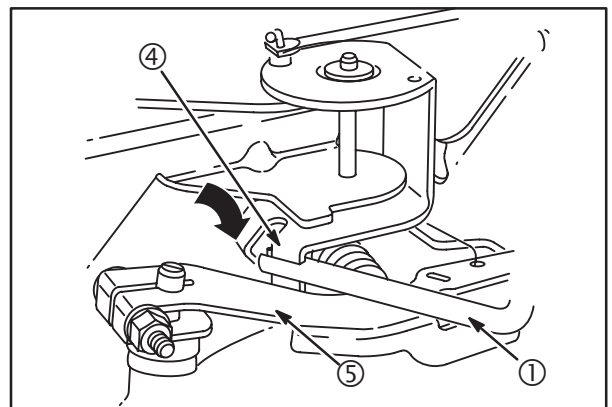

Fig. 36
3. Use Tool #19352 (1) to bend throttle restrictor tang (4) so that it just contacts governor lever (5), **Fig. 36**.